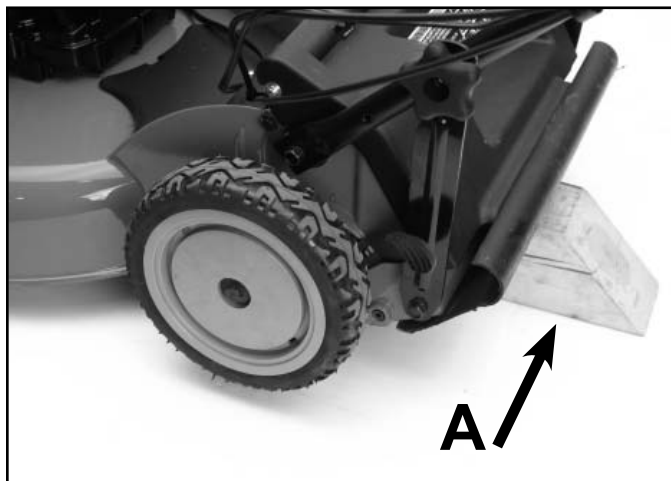

Fig 027
1. Raise the rear of the mower and support with a block (Fig. 027).